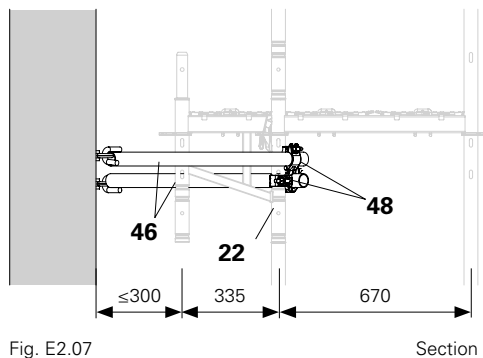

Fig. E2.07
Attach two Wall Ties UWT (46) below at approx. 45° to the ledger axis. Attach both wall ties to the inner Easy Standard EVM (22) with standard couplers (48). (Fig. E2.07 + E2.08)